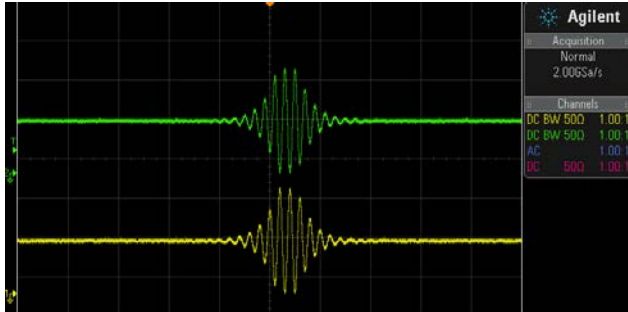

Figure 8 : Example 5 Result
- j. The outputs from J2 and J8 will be as displayed in Figure 8